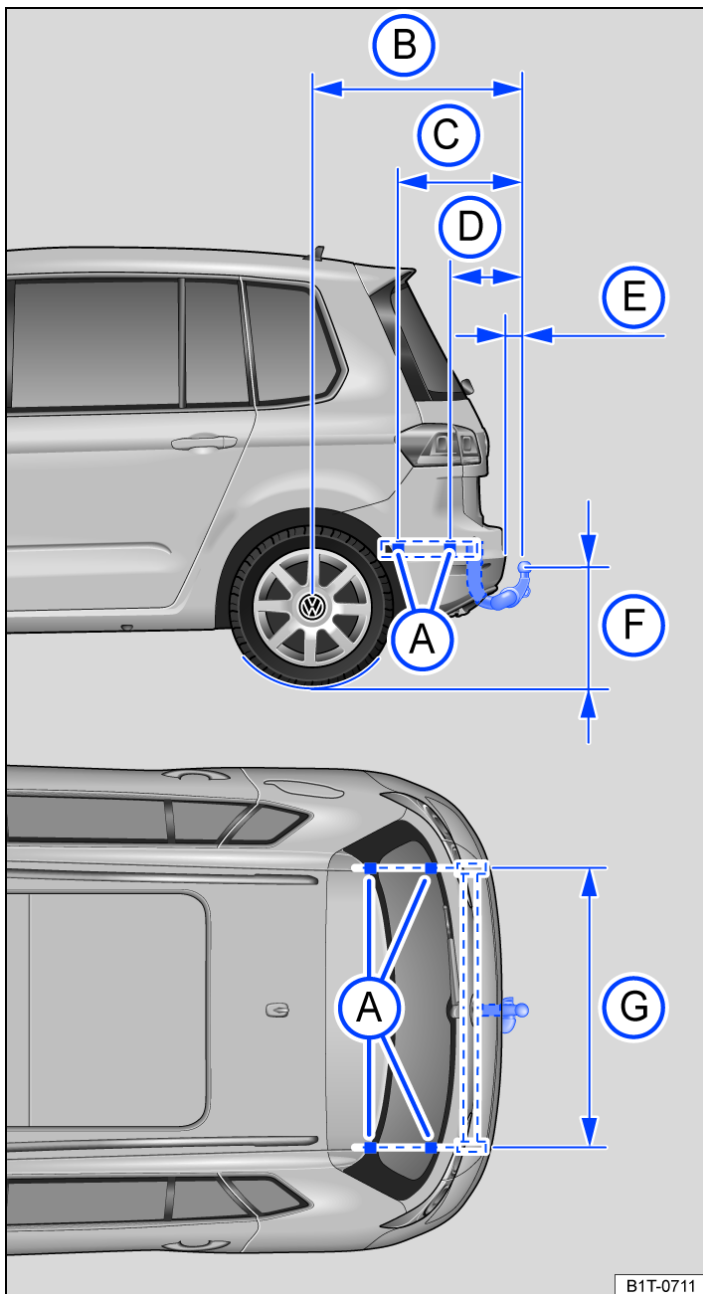

Fig. 1 Dimensions and mounting points for retrofitting a trailer hitch.
The correct dimensions → *fig. 1* must always be used when retrofitting a trailer hitch. The smaller specified dimension from the center of the ball mount to the road surface (F) must always be met. This also applies when the vehicle is fully loaded including the maximum tongue weight.
- (A) Mounting points.
- (B) 959 mm (approx. 37.8 in)
- (C) 560 mm (approx. 22 in)
- (D) 340 mm (approx. 13.4 in)
- (E) Min. 65 mm (approx. 2.6 in)
- (F) 350 to 420 mm (approx. 13.8 to 16.5 in)
- (G) 1066 mm (approx. 42 in)